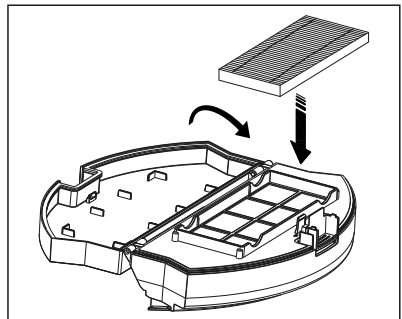

Fig. 13
- 8) Place the EPA filter **7** back in the compartment, and close the dust container **1b** (see Fig. 13).